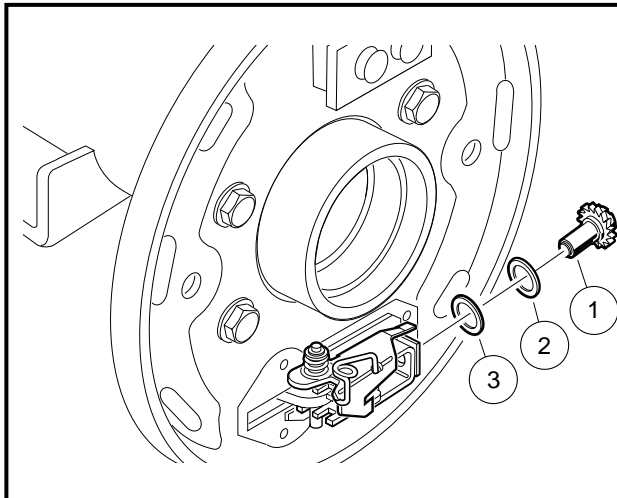

Figure 6-7 Remove Adjuster Wheel
8. **Self-Adjusting Brake Vehicles Only:** Remove the adjuster wheel (1) with two washers (2 and 3) from the backing plate (**Figure 6-7, Page 6-5**).